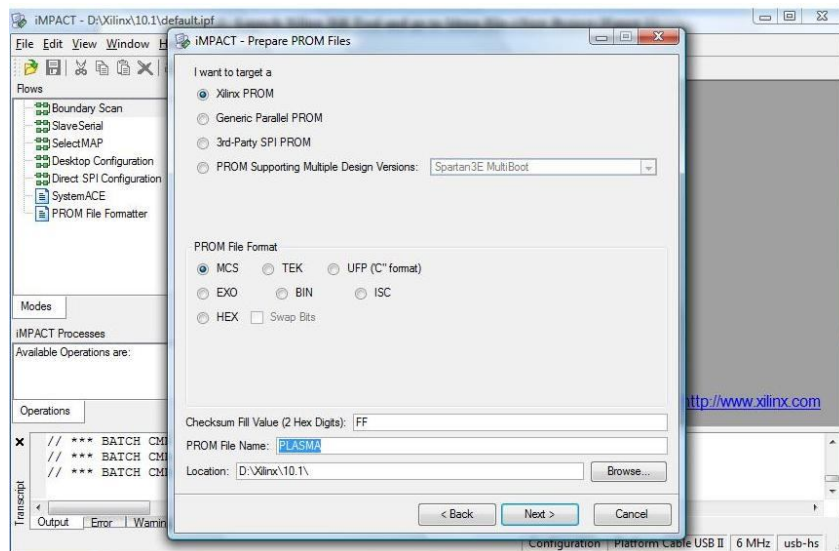

Figure 5 : Naming the PROM file and choosing the Location
- d. In this step give a name to your PROM file and choose the Location. (Figure 5).